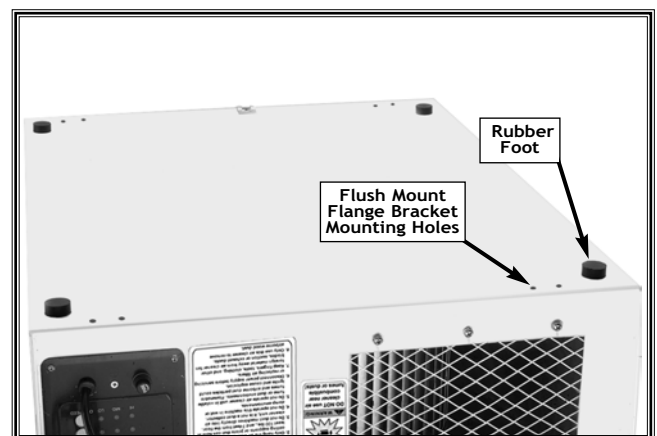

Figure 6. Rubber feet correctly installed (Underside View).
2. Expose the sticky backing on the foot, and affix the rubber foot to the bottom of the air cleaner unit. See **Figure 6**.